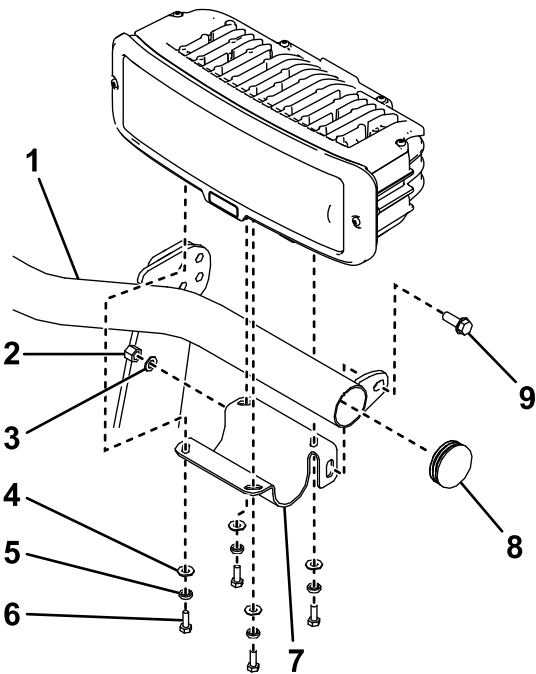

Figure 13
2. Ensure that the end caps are installed on the ends of the light bar (Figure 13).
3. Secure the left headlight-bracket to the light bar using a flange-head bolt (3/8 x 1 inch), a flat washer, and a nylon locknut (Figure 13).
4. Secure the left headlight to the headlight bracket using 4 bolts (1/4 inch), split lock washers, and flat washers (Figure 13).